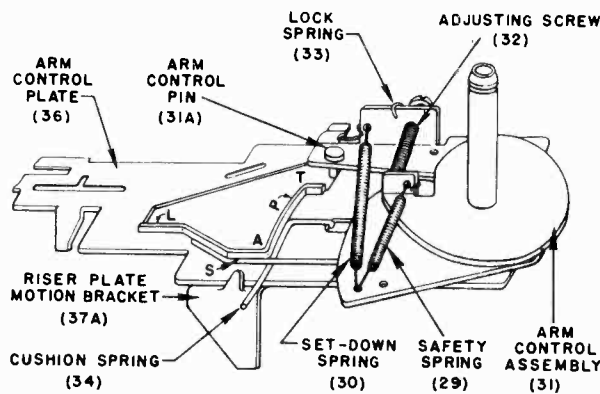

FIGURE 2.
(See Figures 2, 5, and 7.)
While a record is playing and as the pickup arm moves toward the center of the record, the arm control pin (31A) on the arm control assembly (31) moves along the portion of the arm control track (36B) as indicated at "P", figure 2. As the record reaches the pickup or trip point, the pin reaches point "T" on the track. As it moves into the recessed position in which it is shown in the illustration, it permits the trip spring (35) to pull the arm control plate (36) forward towards the centerpost (27). As the arm control plate is drawn forward, the stop tab (36A) on the arm control plate (36) is withdrawn from behind the reject catch (85). This allows the eccentric cam (43) to be pulled over by the eccentric cam spring (44) until the rubber tire makes contact with the knurled roller (53) on the turntable shaft (28A). This knurled roller, which rotates with the turntable shaft, rotates the eccentric cam. In turn, this forces the riser plate assembly (37) back along the guide rods (51A) away from the centerpost (27).
During the early part of the change cycle, the arm control plate (36) has traveled (in a direction away from the centerpost) until the size change stop (36C) reaches the push-off cam (42B) of the push-off cam and shaft assembly. The distance traveled by the arm control plate (36) will depend on the size of the record being played; the distance is less for a 12-inch setting than for a 10-inch setting. (This is true because the push-off cam (42B) presents its short radius to the size change stop (36C) for the 10-inch setting and presents its long radius to the size change stop for a 12-inch setting.) This variation in distance traveled means that the arm control track (36B) will be in a position closer to the centerpost for the 12-inch setting than for the 10-inch setting. This, in turn, means that during the change cycle the arm control pin (31A) [whose path is determined by the motion of the arm control assembly (31)] will leave its recessed position, and will ride along the "S" portion of the arm control track for the 12-inch setting and along the "L" portion for the 10-inch setting. (See Figure 2.)